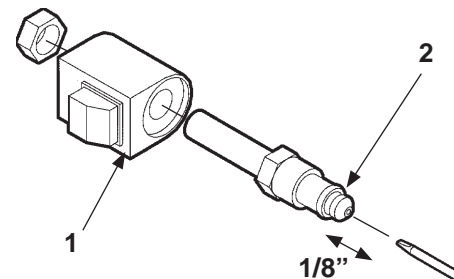

FIG. 67-2
2. Check the valve stem by removing the coil assembly (**Item 1, FIG. 67-2**). With platform on ground, unscrew the valve stem (**Item 2, FIG. 67-2**) from the pump. Push on the plunger that is located inside the valve stem by inserting a small screwdriver blade in the end. If the plunger does not move freely, (approximately 1/8") replace the valve stem. **When reinstalling valve stem, torque hex nut to 30 in-lbs.**